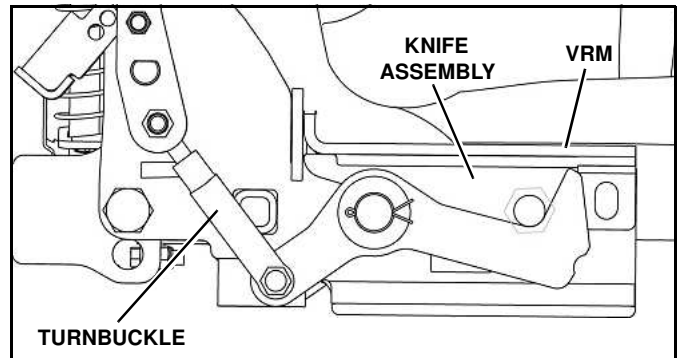
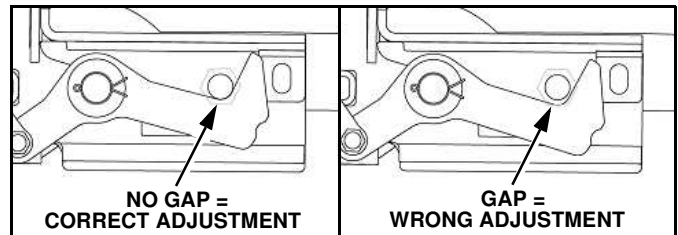

Figure 1-32
Figure 1-33
5. Once mounted, raise and lock the engagement handle. (See Figure 1-32).
NOTE: Turnbuckles are set to an approximate length from factory. Further adjustment may be needed after installation. Over extending the turnbuckle could cause the handle to become difficult to rotate completely. Periodically the turnbuckle will need to be adjusted due to wear and tear of the VRM. (See Figure 1-32 and Figure 1-33).